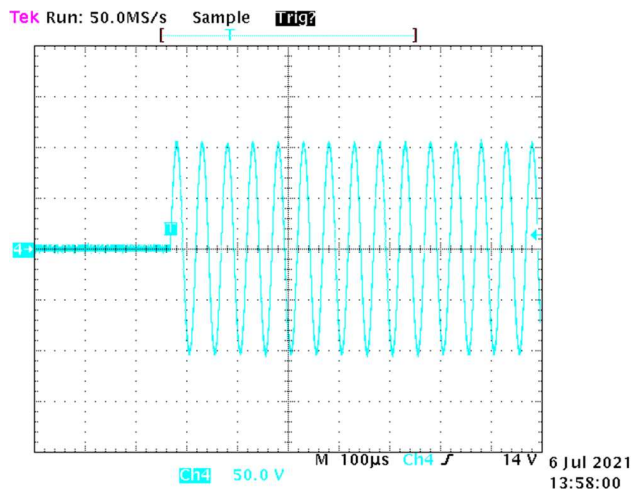

Figure 1
3. Set oscilloscope to trigger once, at a level that will allow viewing from the start of waveform playback, shown in Figure 1.
4. Verify that playback of the first segment matches Figure 1, in which the sine wave output starts at 0V.
- a. If the output is dissimilar to figure 1 in terms of waveform start value, the device will fail the RPFT.